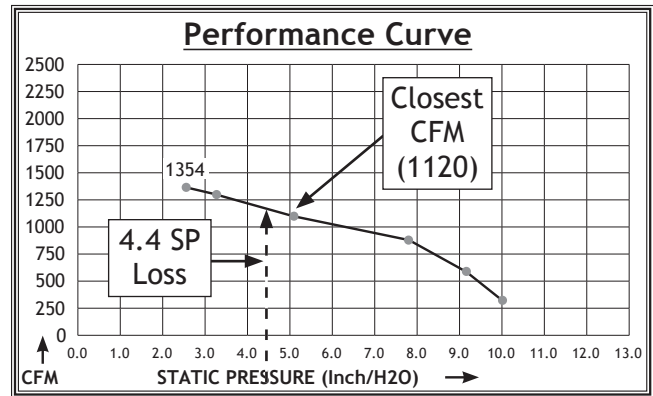

Figure 50. CFM for static pressure loss of line connected to a dust collector & router.
5. Compare the total static pressure loss for that line to the closest CFM given in **Figure 50** for your dust collector.
Example: A typical **Data Sheet Performance Curve** is illustrated in **Figure 50**. Find 4.4 on the Static Pressure axis (the amount of total static pressure loss calculated in **Figures 49-50**), then refer to the closest value on the CFM axis—approximately 1120 CFM.